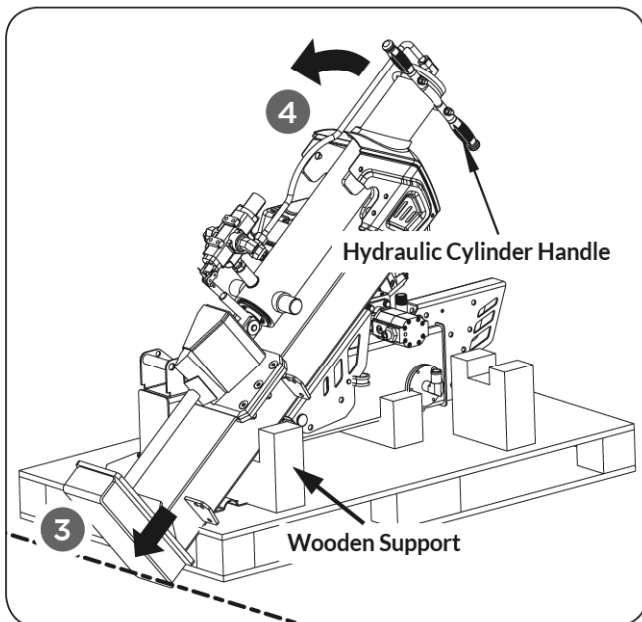

Figure 2b
2. Holding the cylinder handle up, Using the bottom wooden U-shaped block as support, then make sure the beam base safely grounded at a certain angle (See **Figure 2b**, illustration 3). Need two people work together to let the whole beam in vertical position stably.